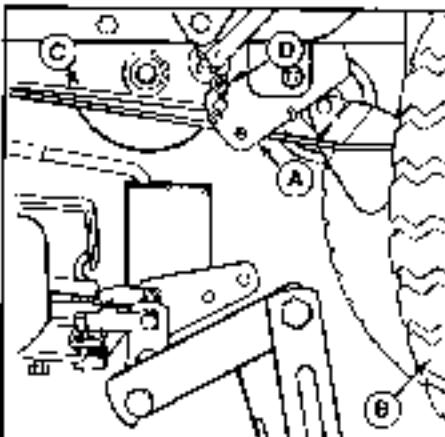

Figure 5B. PTO Rod
- y. Attach the PTO rod to the tractor PTO lever in hole marked "M1W" with the spring clip provided (figure 5B).